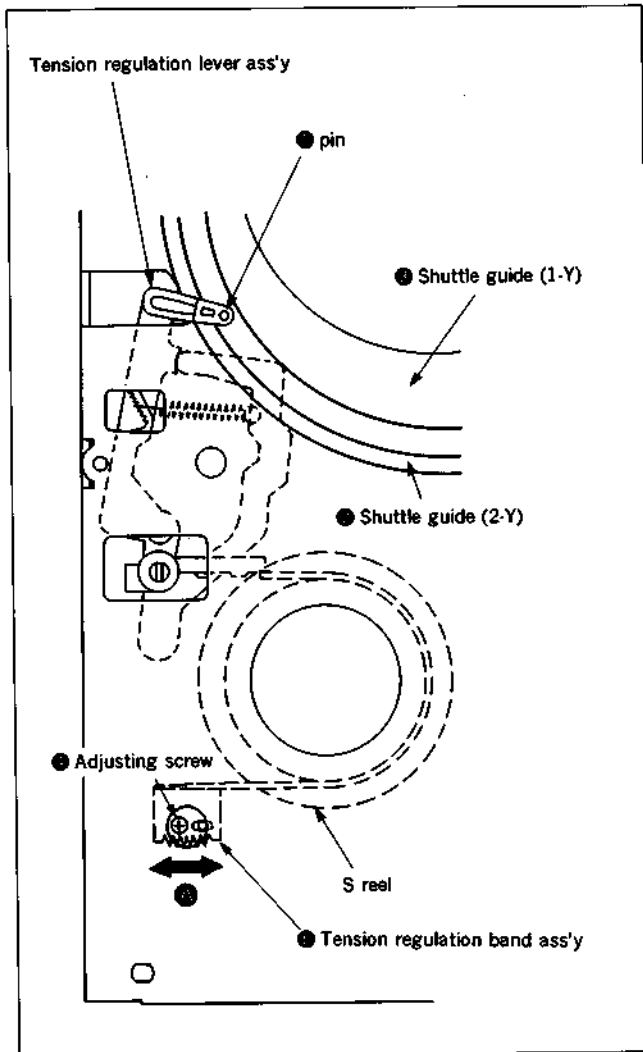

Fig. 7-27. Tension regulation lever positioning
- 2) As shown in Fig. 7-27, verify that the tape guide pin ① of the tension regulation lever ass'y is positioned in between the shuttle guide (2-Y) ② and the shuttle guide (1-Y) ③.
- 3) If not positioned so, loosen the adjusting screw ④ and move the tension regulation band ass'y ⑤ in the direction of the arrow A for positioning.